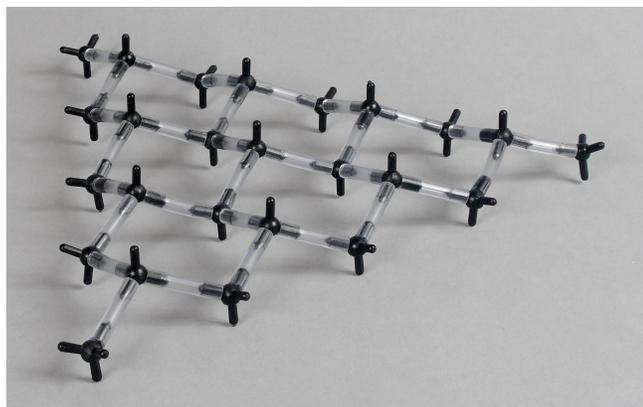

Fig. 4 Completed layer A.
- Attach one black carbon atom center to each of the three corners of the structure you made in Step 3. (Fig. 4) This is now "Layer A."